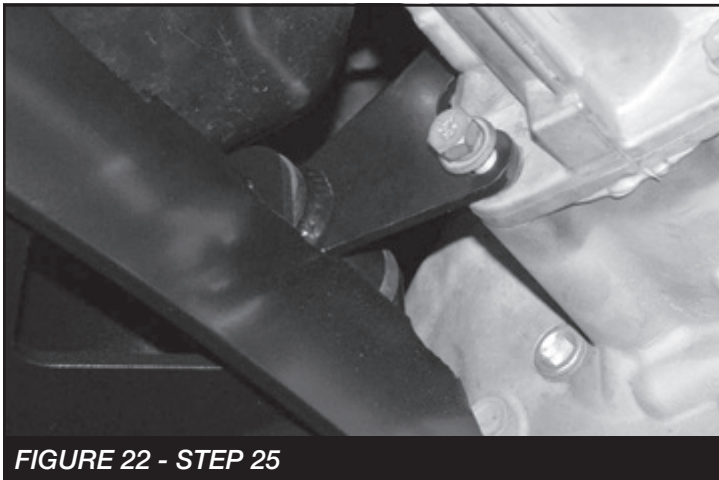

FIGURE 22 - STEP 25
25. Locate the center differential bracket (FT30381). Install two of the Fabtech (FT1020) bushings and one sleeve (FT181) into the barrel on the differential bracket. Mount the differential bracket to the center of the differential and reinstall the factory bolts. Torque the factory hardware to 35 ft-lbs. The barrel and the bushing section of the bracket will install in to the two tabs on the top of the crossmember with a 1/2"-13 x 3-1/2" bolt, washers and c-lock nut. Leave loose. **SEE FIGURE 22**